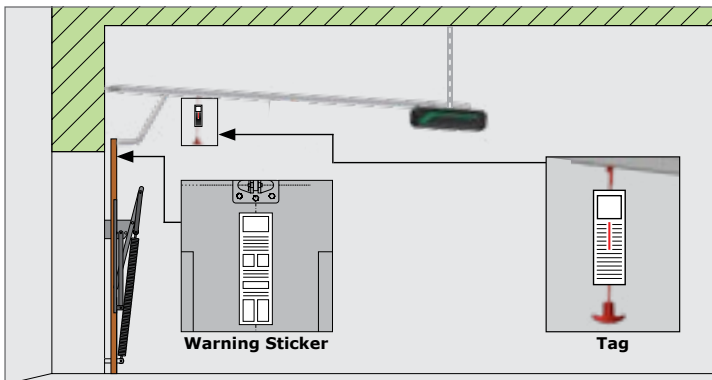

FIGURE 73
- TO ENGAGE - Pull the release handle back towards the control head until you hear a 'click', and move the carriage until it engages with the belt bullet (Figure 73)